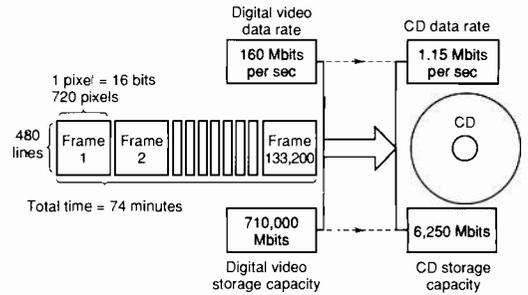

Fig. 2. The video encoding challenge – storing a 710G-bit film on a half-gigabit CD.
One excellent solution is to use the transmitted power as input to an isolated output dc-to-dc converter within the sensor buffer unit, Fig 2. In this way, the isolated zero volts of the converter output and system zero volts need not be brought together until the signal is safely back into your central control system.
**Fig. 2.** Powering a sensor buffer from a host can cause grounding problems. One solution is to regenerate clean power supplies using isolated dc-to-dc converters within the sensor buffer unit.